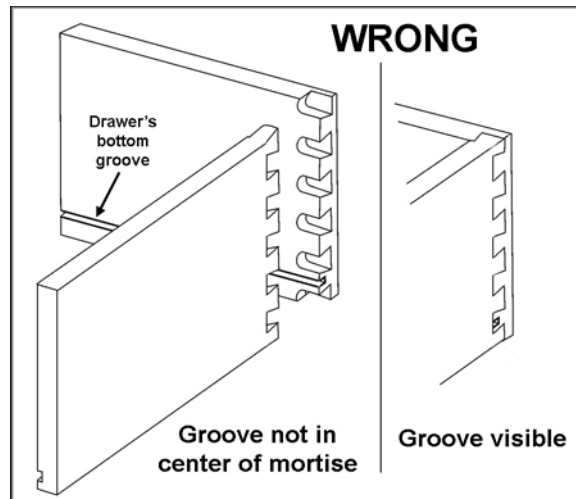

Figure 18
4. As noted, the position of the horizontal fence will affect the position of the vertical fence. Therefore, if you are making a drawer that has a bottom groove, the vertical fence should be set so that the bottom groove in the drawer piece will go through the center of a dovetail. That means the bottom groove of the mortised piece will go through the center of a mortise. This will prevent the groove from being visible on the outside of the assembled drawer. See Figure 18 and 19.